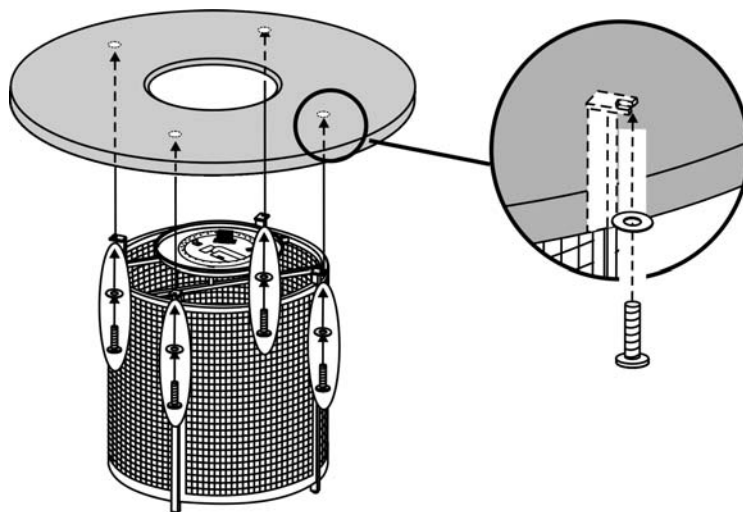
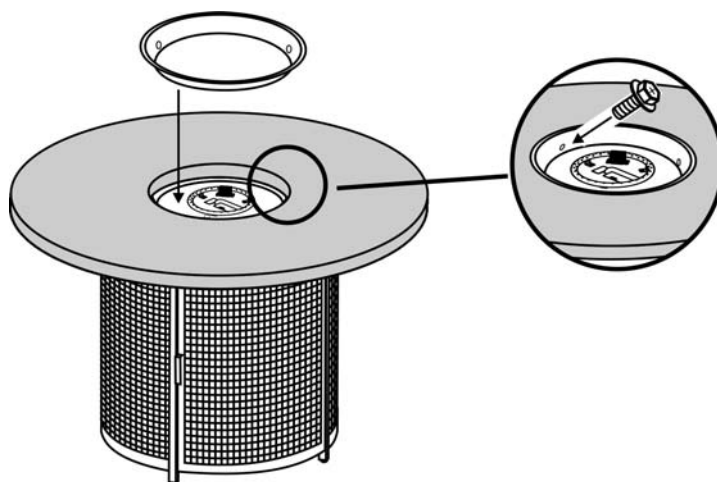

Figure 3
Figure 4
2. Place the firepit tabletop (This product does not include the tabletop, sold separately) onto the firepit base. Secure the tabletop to the firepit base by using the 1/4 x 20 mm bolts and washers that are provided. See Figure 3.
3. Place the burner pan protective ring into the firepan/burner assembly as shown in Figure 3. Align the holes in the burner pan protective ring with the pre-drilled holes on the firepan/burner assembly. Secure the burner pan protective ring to the firepan/burner assembly by using the three M4 screws as shown in Figure 4.